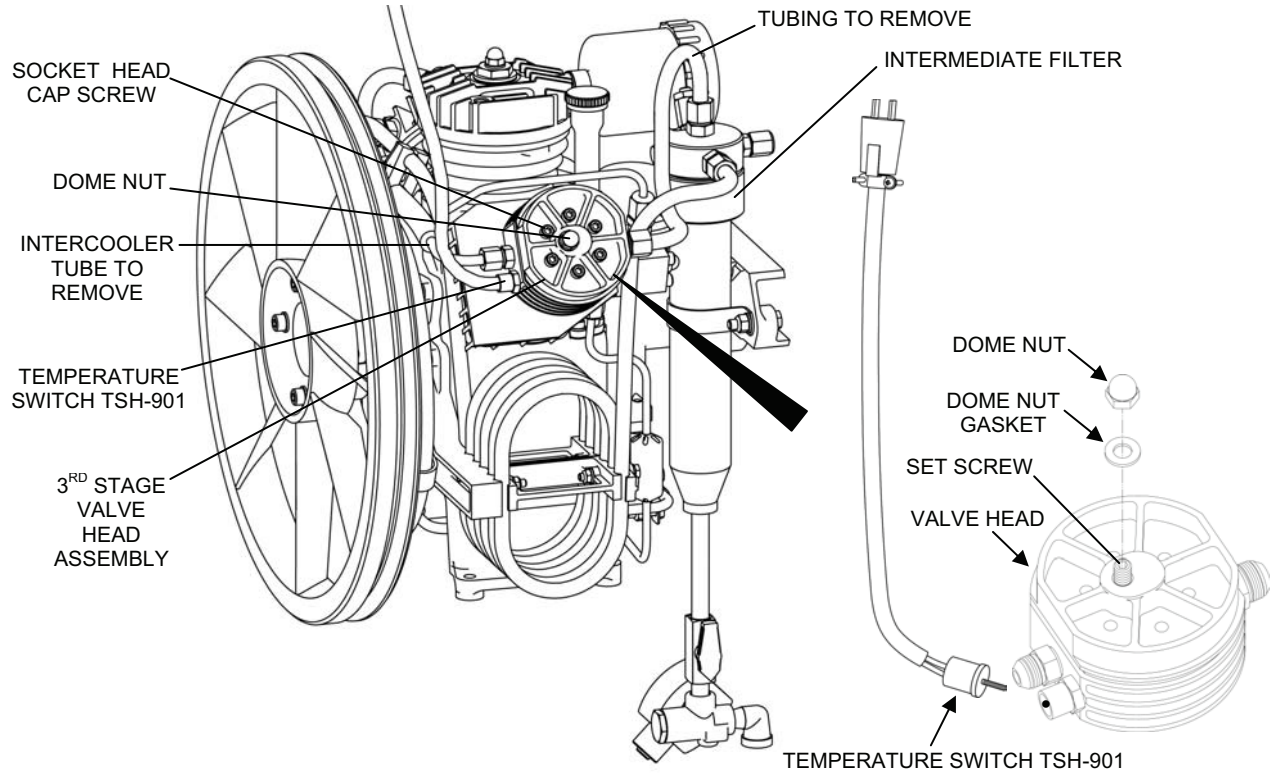

Figure 11. Third Stage Valve Head Assembly Replacement.
3. Remove the third stage valve head assembly as follows (see Figure 11):
4. Install the new third stage valve head assembly as follows (see Figure 11):